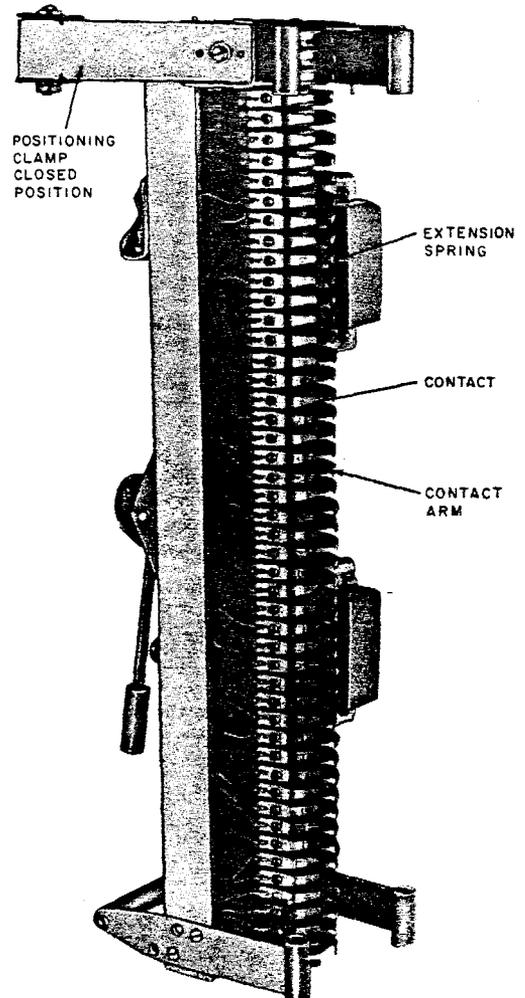

Fig. 2—B Test Connector—Rear View
**6.12** Remove the cords by unscrewing the screw jacks on them. Turn each screw jack simultaneously until the plugs come away squarely from the connectors. Move the lever on the B test connector to the upper position. Grasp the lifting handle at the **bottom** of the connector. Open the clamps at the **top** of the connector and move the test connector horizontally outward away from the protector. With the test connector standing vertically, move the lever downward again closing the contacts. The positioning clamps should then be returned to the position shown in Fig. 2.